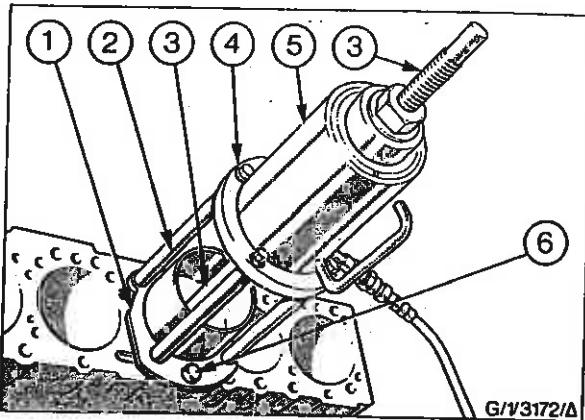

Fig. 39 - Cylinder Liner Removal
1. Assemble the four support legs into the cylinder pressure plate and the main pressure plate onto the opposite end of the legs - see Fig. 39.